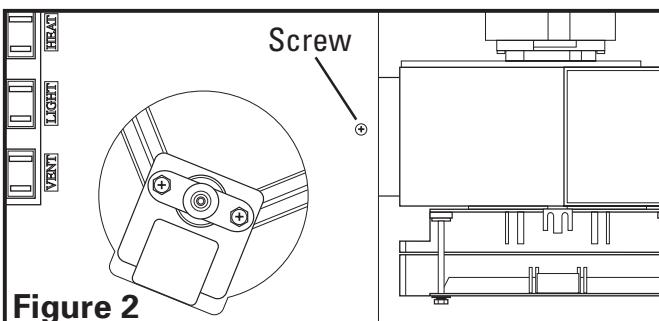

Figure 2
3. Remove the fan's venturi assembly, which is secured in place with one screw through the venturi (**Figure 2**). Keep the venturi assembly and the grill in the carton until needed so they do not get damaged or lost.